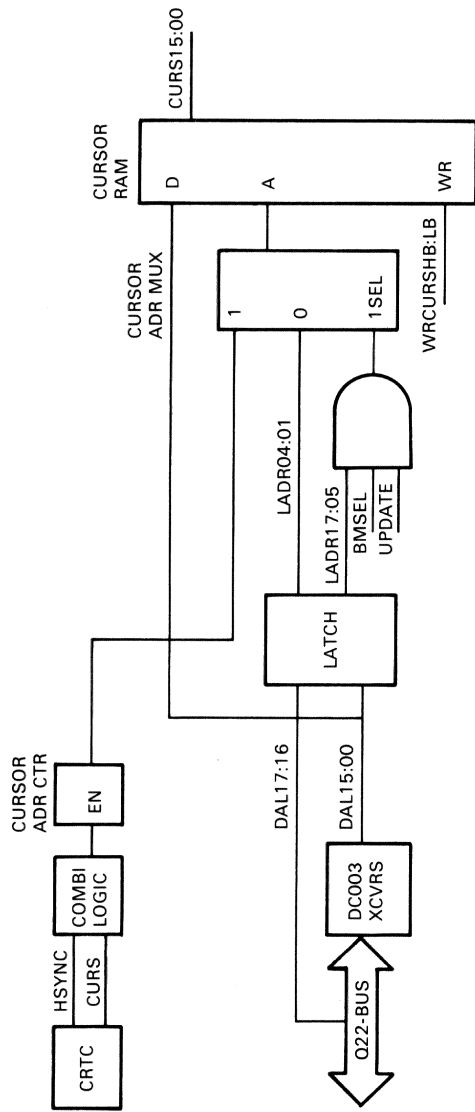

Figure C-14 Cursor RAM Read/Write
C.1.5.7 Cursor RAM (Write) – Refer to Figure C-14. When the top 16 locations (BDAL<17:05> asserted) of bit-map memory are addressed (D3BMSEL asserted) during an update cycle (D11UPDATE asserted), the 16 cursor RAM locations are addressed by BDAL<04:01> through input 0 of the cursor address mux.